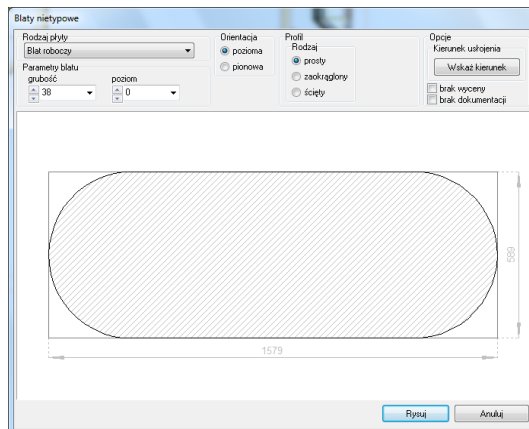

Fig. 208 – Untypical worktops window
- The **Untypical worktops** dialog opens with the worktop path loaded (Fig. 208):